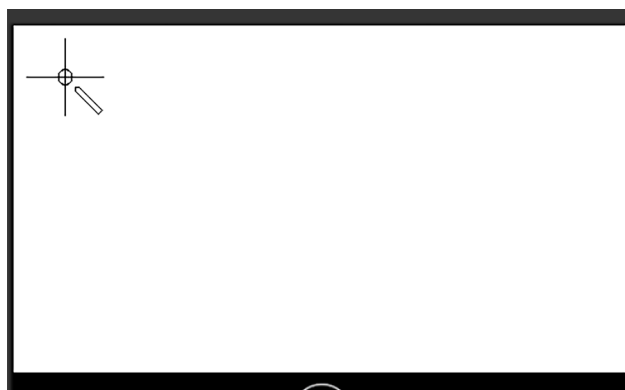

Fig. 13
4. When a cross is displayed on the screen, tap the middle of it (Fig. 13).